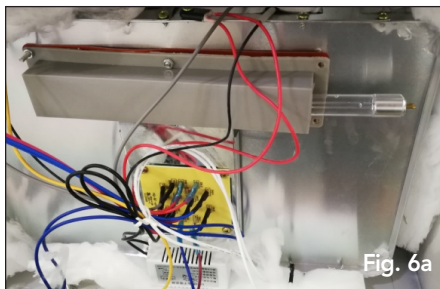

Fig. 6a
9. Remove the faulty UV bulb. Insert a new UV bulb (Replacement bulb Item #391445) back inside the small box, close the lid, and tighten the two screws on the lid. See Fig. 6a & 6b.